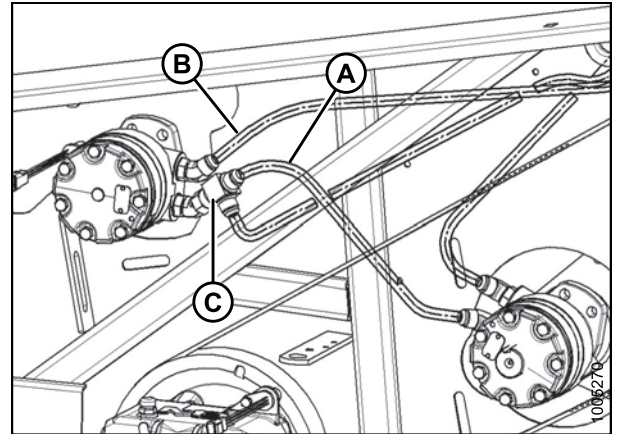

Figure 3.140: Early-Build 2015, 2014 and Earlier Factory Configuration (M150, M155, and M200)
1. Press screwdriver against latch in opening (A) and lift to open header left-hand driveshield. Shield will latch at (B) to stay open.
2. Check hose routing at the reel motor. The header is factory-configured for M150, M155, and M200 Windrowers as shown in Figure 3.140: *Early-Build 2015, 2014 and Earlier Factory Configuration (M150, M155, and M200)*, page 67.